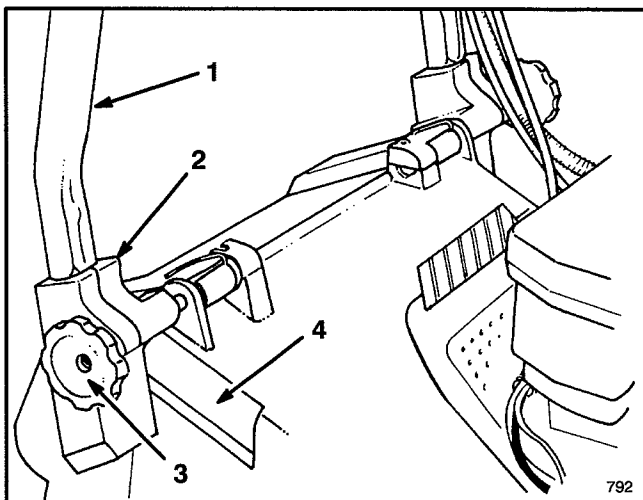
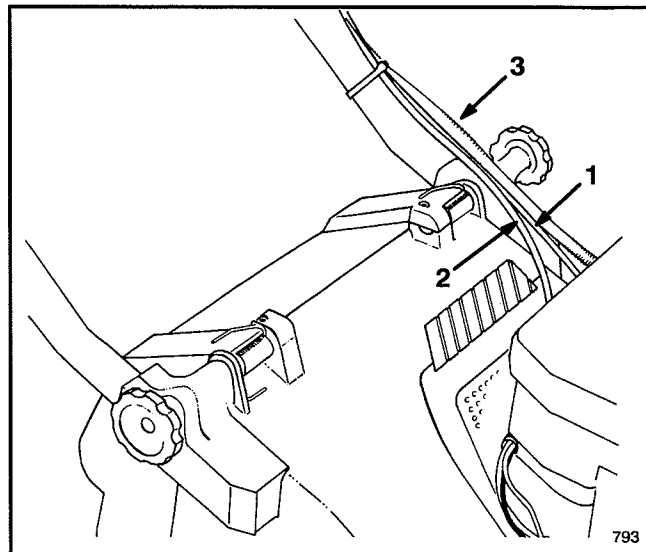

Figure 1
Figure 2
1. **INSTALLING HANDLE**—Loosen knobs on mounting brackets (Fig. 1).
3. Slide handle ends into holes in mounting brackets until handle ends are completely seated in brackets (Fig. 1). Make sure throttle cable, electric start cable (electric start model) and traction cable rest on top of left mounting bracket (Fig. 2).
4. Rotate handle and brackets rearward until brackets fit securely into housing pockets (Fig. 2).